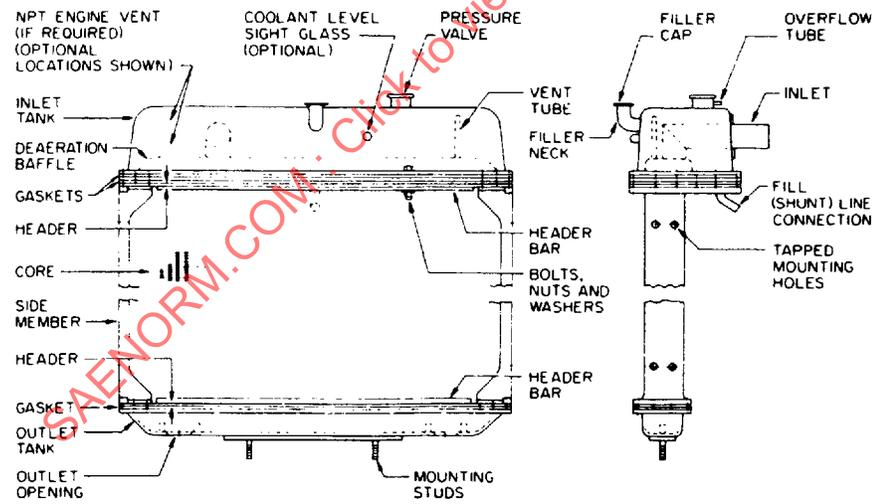

FIGURE 8—BOLTED TYPE RADIATOR, DRAWN TANKS (TYPICAL DEAERATION SYSTEM SHOWN)
3.6 Bolted Radiators—Figures 8 to 11 give the nomenclature for bolted radiators.